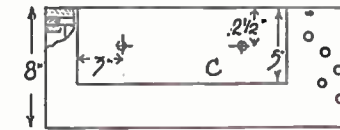

Fig. 2
At (C), Fig. 2, is shown the dimensions of the vice check. Cut to these sizes, and where shown, bore a pair of holes, large enough to admit the bolts which are to act as bench screws. In a bench top of this description, there is not the room
The general usefulness of the bench top can be supplemented with additions. To assist, for instance, in supporting a board for edge planing, bore a double series of holes  $\frac{3}{4}$  in. diameter, and spaced 1 in. apart vertically in the front, as in Fig. 2. These are staggered to avoid possible weakening of the board. Pegs, cut from  $\frac{3}{4}$  in. round wood rod, are provided; these fit in the selected holes and keep the wood to be edge-planed from slipping down.
The front is shown at Fig. 2. It should be the same length as the bench top, and be firmly screwed to the front edge of same. Countersink these screws. To better ensure the board being truly at right-angles to the bench top, cut a pair of wood brackets, say, 6 ins. long and 4 ins. wide, and screw these at the ends to strips (B) and the inner face of the front board. These are shown in the view of the completed bench top. Steel furniture brackets could be substituted here, if preferred.